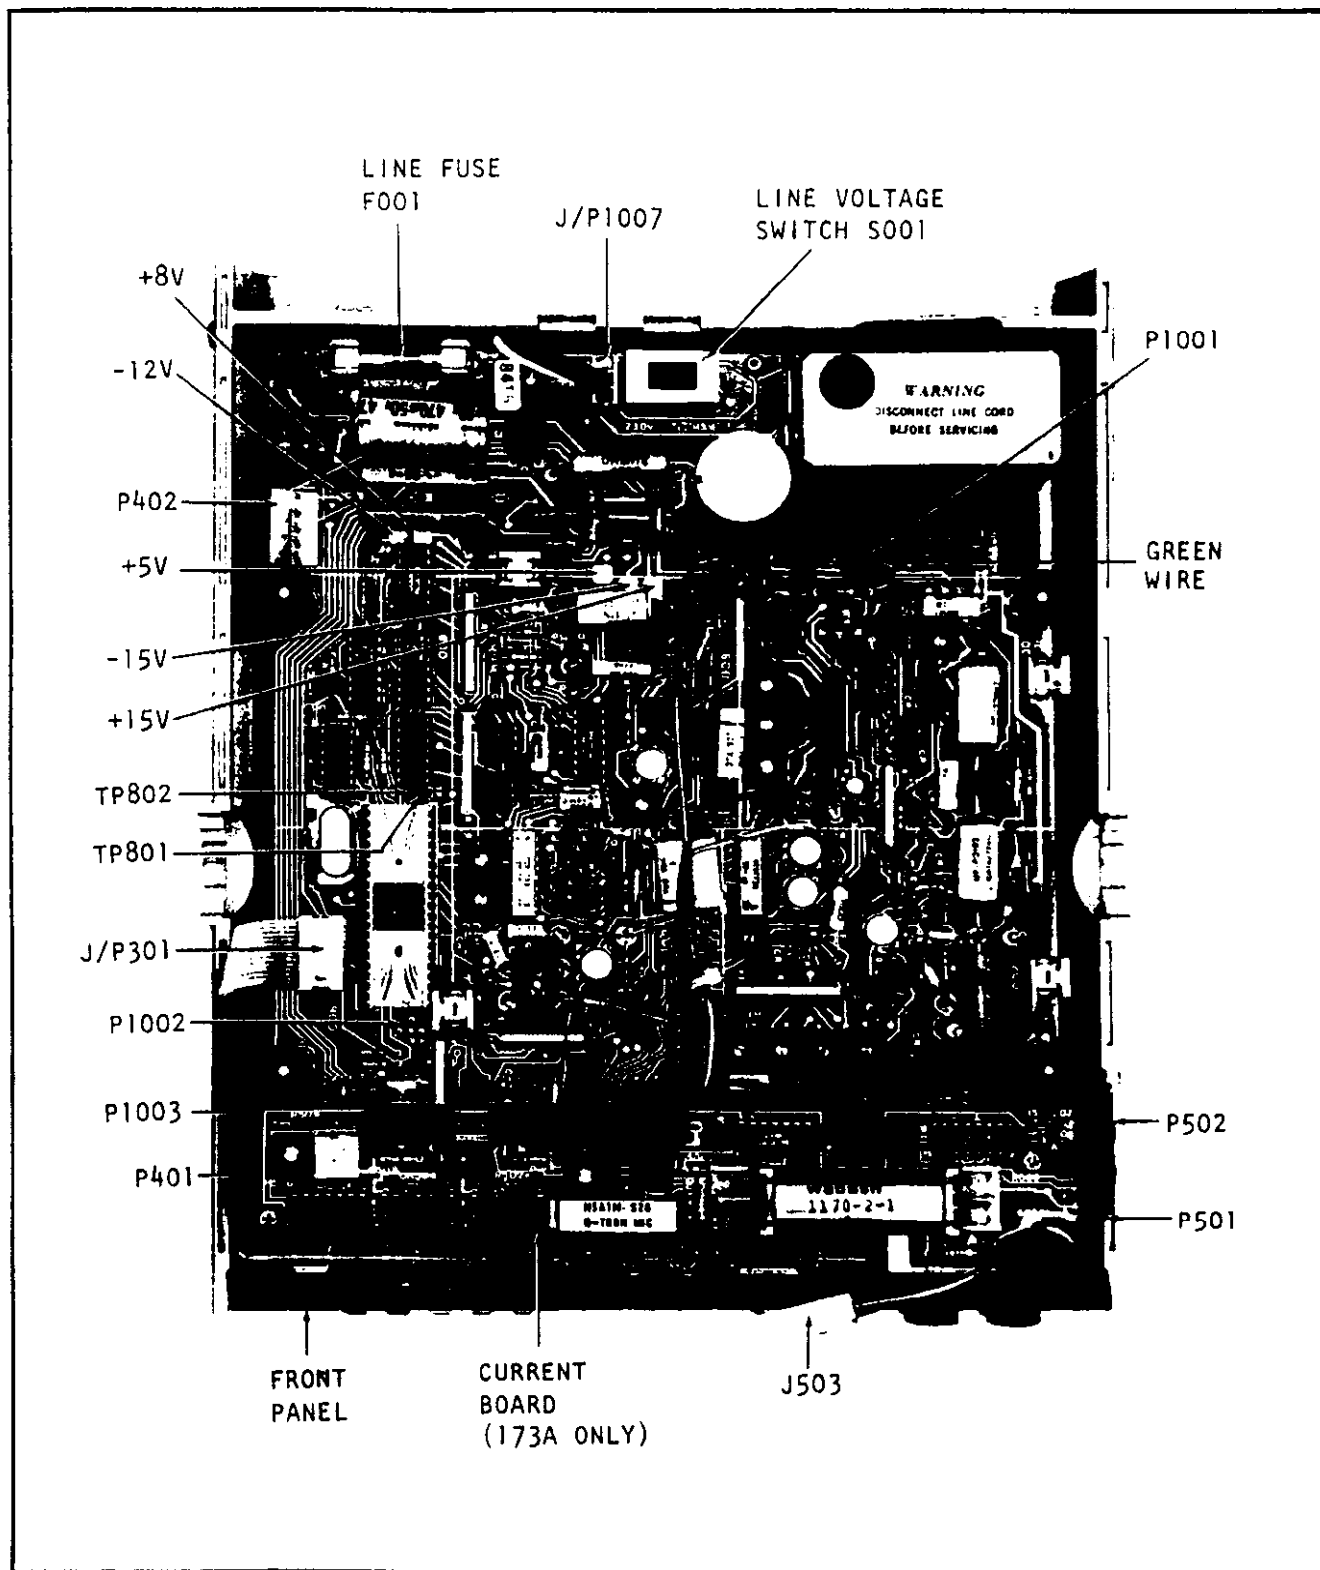

FIGURE 6-2. Location of Connectors and Test Points.
3) Line voltage connector J1007 improperly connected to pc board at P1007.	Check connection to pc board as shown in Figure 6-2.
* On main printed circuit board (See Figure 6-2 for location, and see sheet 3 of Schematic 29145E for circuit details).
2) Remove F001, shown Figure 6-2, and replace it with a 1/4A, 250V, 3AG SLO-BLO fuse (Keithley part number FU-17) for 117V line operation, or a 1/8A, 250V, 3AG SLO-BLO fuse (Keithley part number FU-20) for 230V line operation.